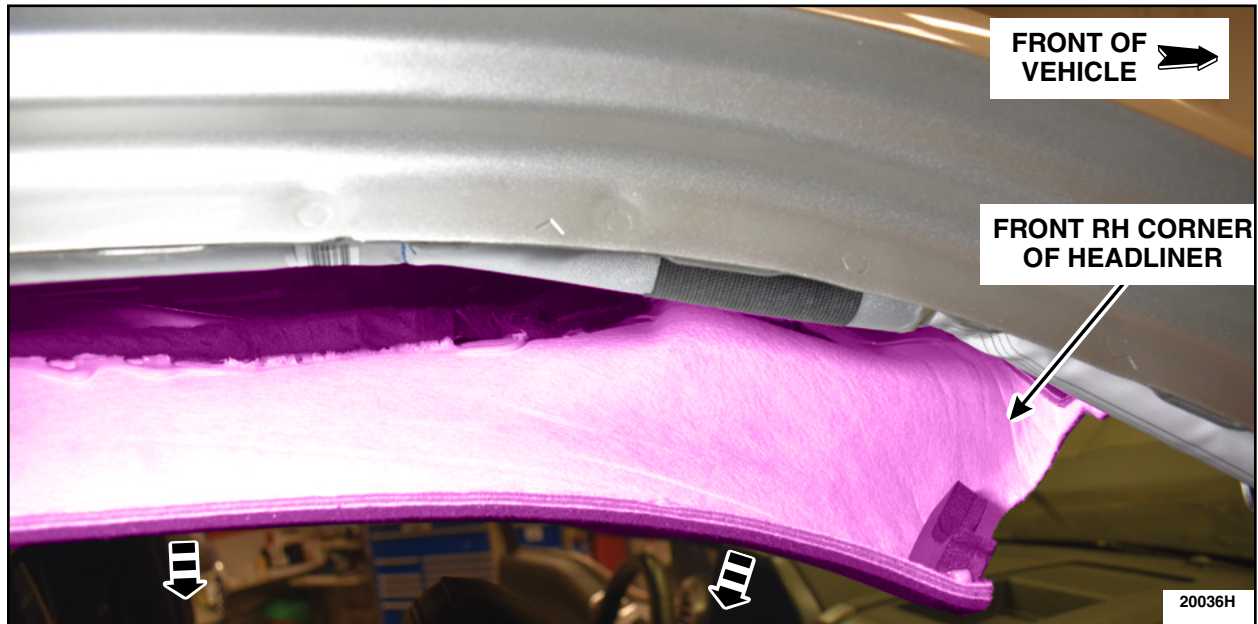
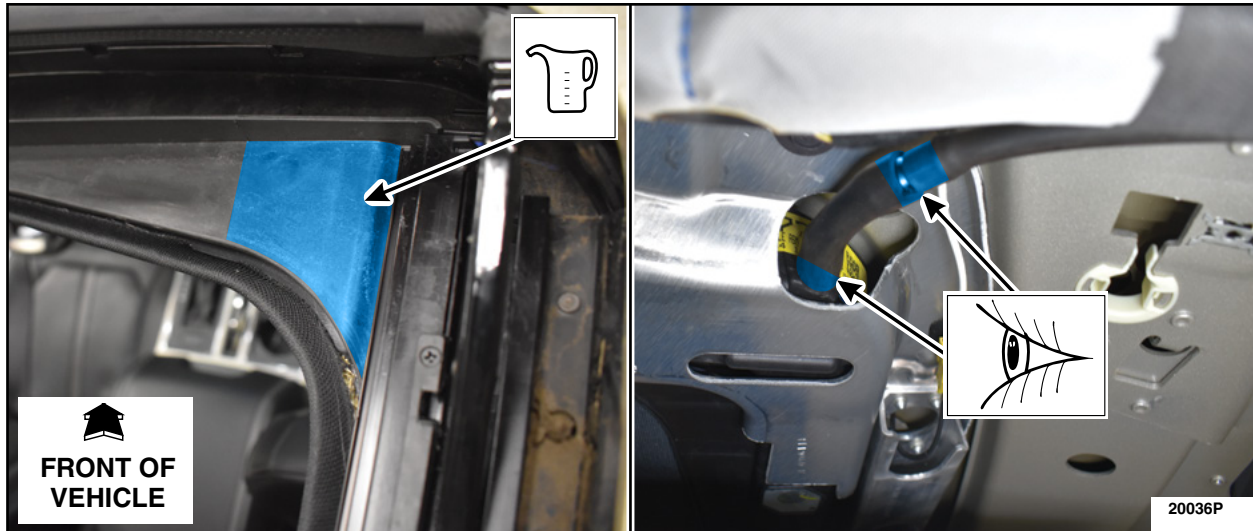

FIGURE 8
FIGURE 17
14. Lower the front RH corner of the headliner. See Figure 8.
29. Lower the front RH corner of the headliner. See Step 14, Figure 8. Pour a glass of water into the roof opening panel drain tube channel and immediately inspect the drain tube, at the roof opening panel for water leakage. See Figure 17.